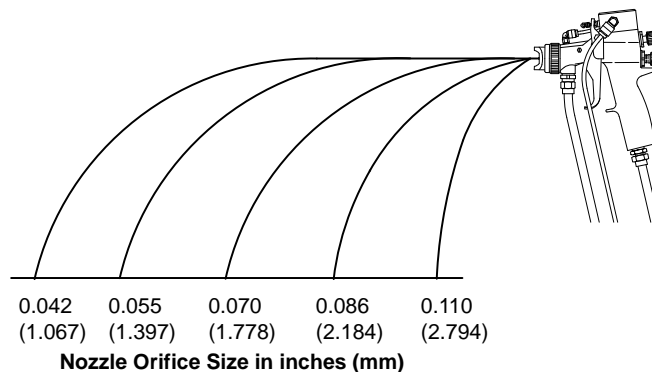
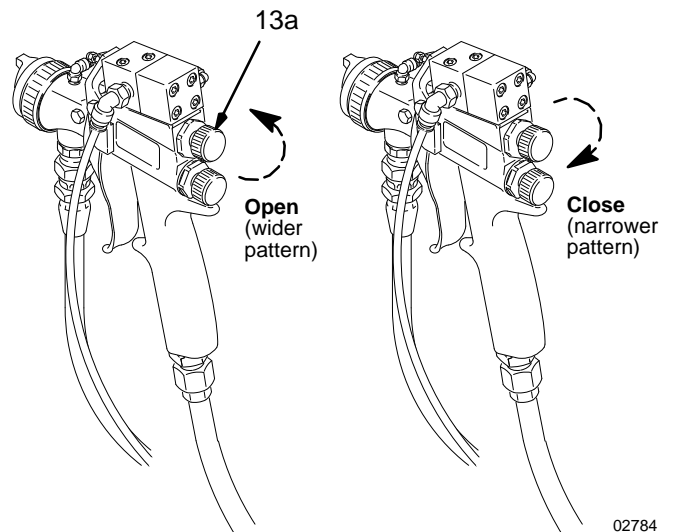

Fig. 15 02755
Fig. 17 02784
**NOTE:** A larger fluid nozzle at a reduced adhesive pressure will maintain the same flow rate, but slow down the fluid stream. See Fig. 15. This allows the atomizing air to act on the fluid longer and improve the atomization.
- E. Open the pattern adjusting valve by turning the knob (13a) fully counterclockwise. See Fig. 17.
- H. The spray pattern may be too wide with the pattern adjustment knob (13a) fully open. Turn the pattern adjustment knob clockwise until you have the desired pattern size. See Fig. 17, page 11.
- I. Check the atomization quality again. If necessary, increase the gun air supply pressure with the air regulator (E) in 5 psi (0.35 bar) increments until you have the desired atomization.
- J. If the atomization is still unacceptable, install a larger fluid nozzle size to reduce the fluid stream. Refer to Fig. 15. See page 8 to remove and install a fluid nozzle.